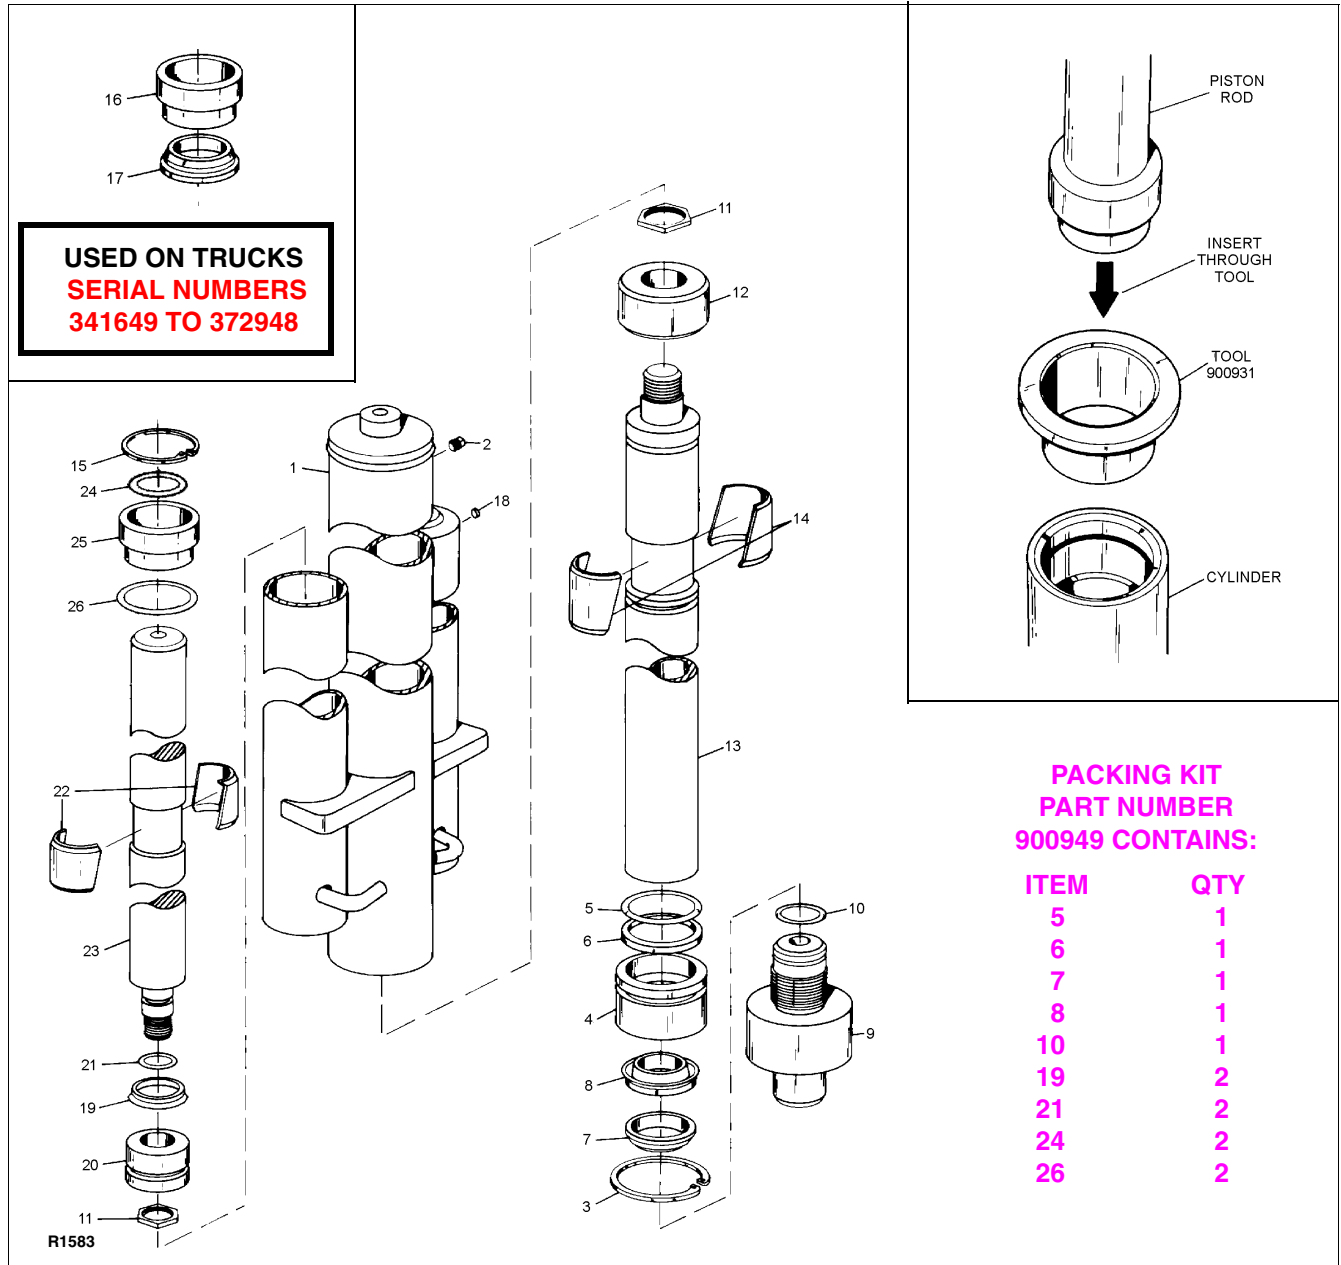

Figure 6-9 Lift Cylinder (FFL)
Refer to Figure 6-9 and disassemble the FFL lift cylinder as follows:
- (3). Insert special tool, part number 900931, into the end of the cylinder, as shown in Figure 6-9 (Inset).